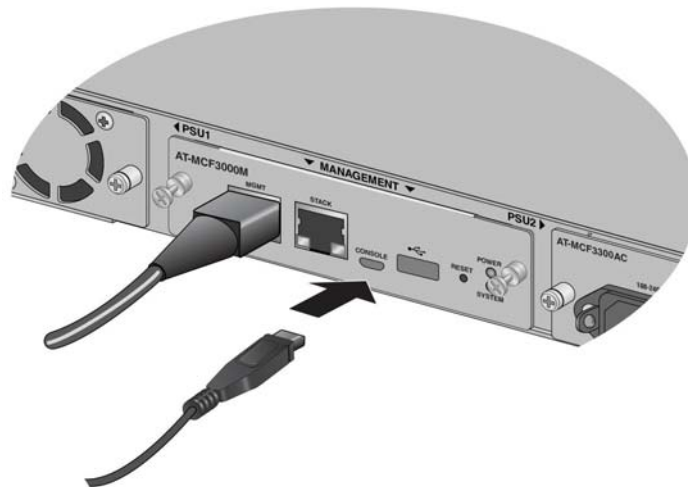

Figure 6. Connecting the Management Cable to the CONSOLE Port
1. Connect the micro-USB connector on the management cable to the CONSOLE port on the management module. Refer to Figure 6.